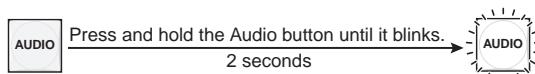

Figure 3-58 — Select Audio mode
2. Press and hold the Audio button for approximately 2 seconds (figure 3-58).